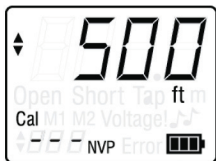

Figure 4-2. LCD display screen in calibration mode.
3. Press the CAL button. The LCD display screen, illustrated in Figure 4-2, shows the following upon entering Calibration Mode: